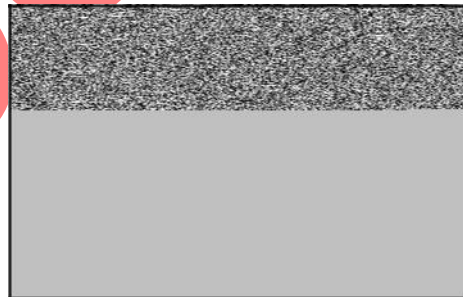

Figure 18
3. Assemble washer (C, Figure 18) to puller screw (D). Insert puller screw and washer through small end of driver (B). Insert from outside of sump against inner race of ball bearing. Place large end of support (A) over ball bearing.